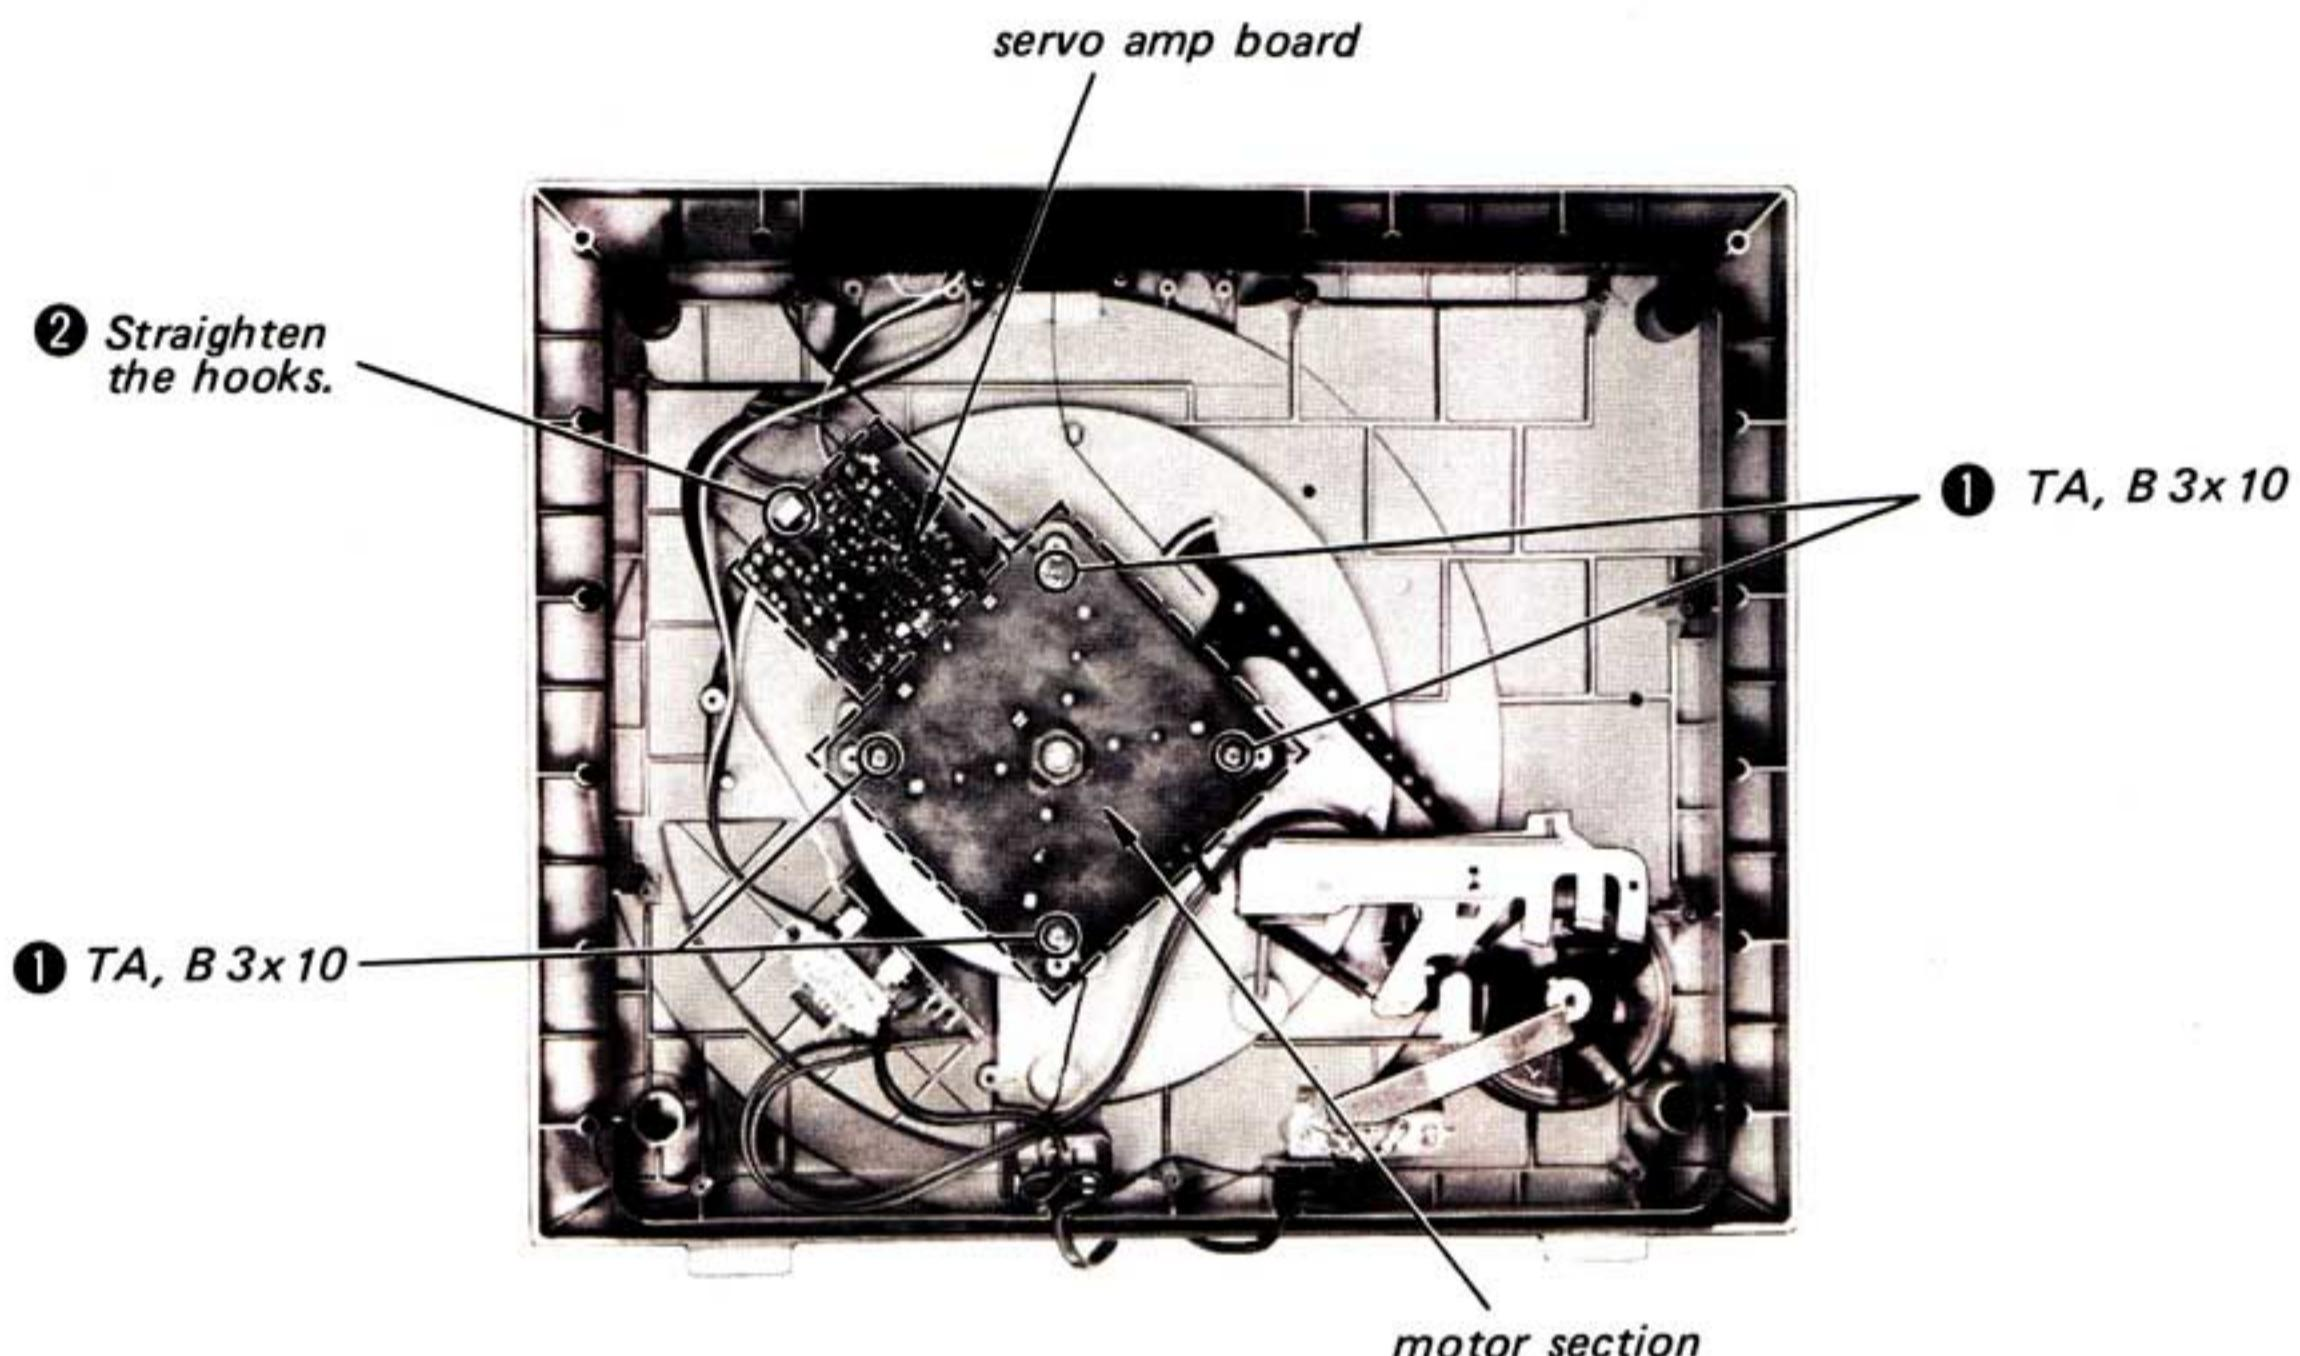

Fig. 2-4
2. Confirm that the positions of the center gear and the drive gear are as shown in Fig. 2-5. Then, remove the servo amp board and the motor section downward. (Enclosed by the broken line in Fig. 2-4.)